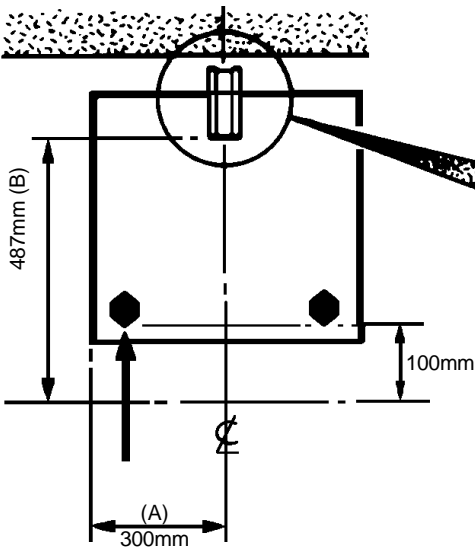

Fig. 2a
2. Mark off 300mm from the left hand side of the appliance as shown in dimension 'A', Fig 2a. This is the centre line of the fixing bracket.
3. Draw a line 100mm from the front edge of the levelling feet (see Fig.2a) and remove appliance from its position. Mark off dimension 'B' (see Fig.2a) back from this line on the centre line of the bracket to locate the front edge of the lower bracket. Fix lower bracket (with two fixing holes) to the floor then measure the height from floor level to engagement edge on back of appliance, dimension 'C' of Fig.2b.